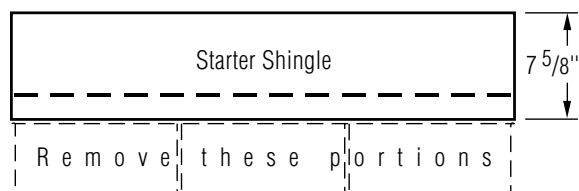

Figure 11-6: Make starter shingles that are $7\frac{5}{8}$ " in height.
1. Use CertainTeed Swiftstart® Starter, or three-tab self-sealing shingles with the lower tab portions removed. Be sure that the starter shingles are at least $7\frac{5}{8}$ " in height. (Figure 11-6).